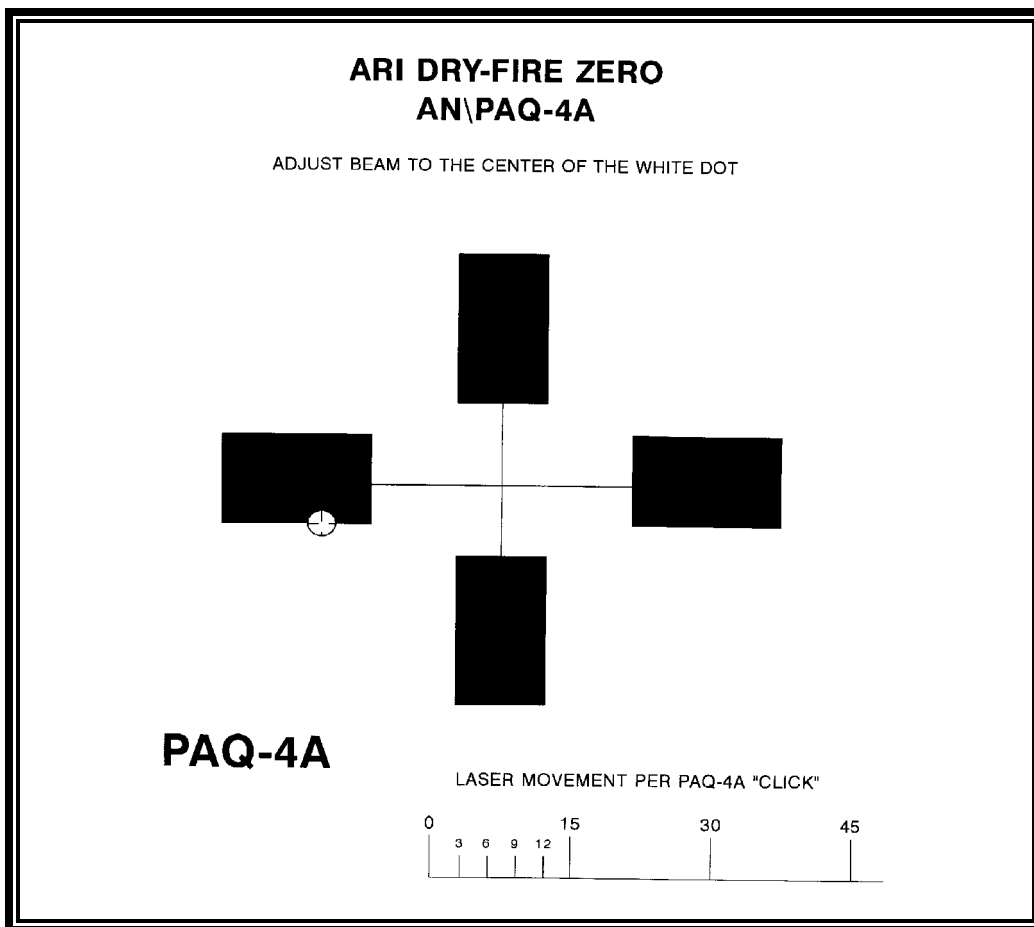

Figure 2
(1) Use the specially designed AN/PAQ-4A “ARI DRY-FIRE ZERO” target on which a white dot is marked **9 mm below and 41 mm left of center mass of the target** (See Figure 2). (Also see Chapter 4, Own The Night Individual Training Package, for the full-sized reproducible copy of the ARI target). This is the target to use during the zeroing process. Field expedient methods of zeroing the AN/PAQ-4A will be covered at the end of this section.